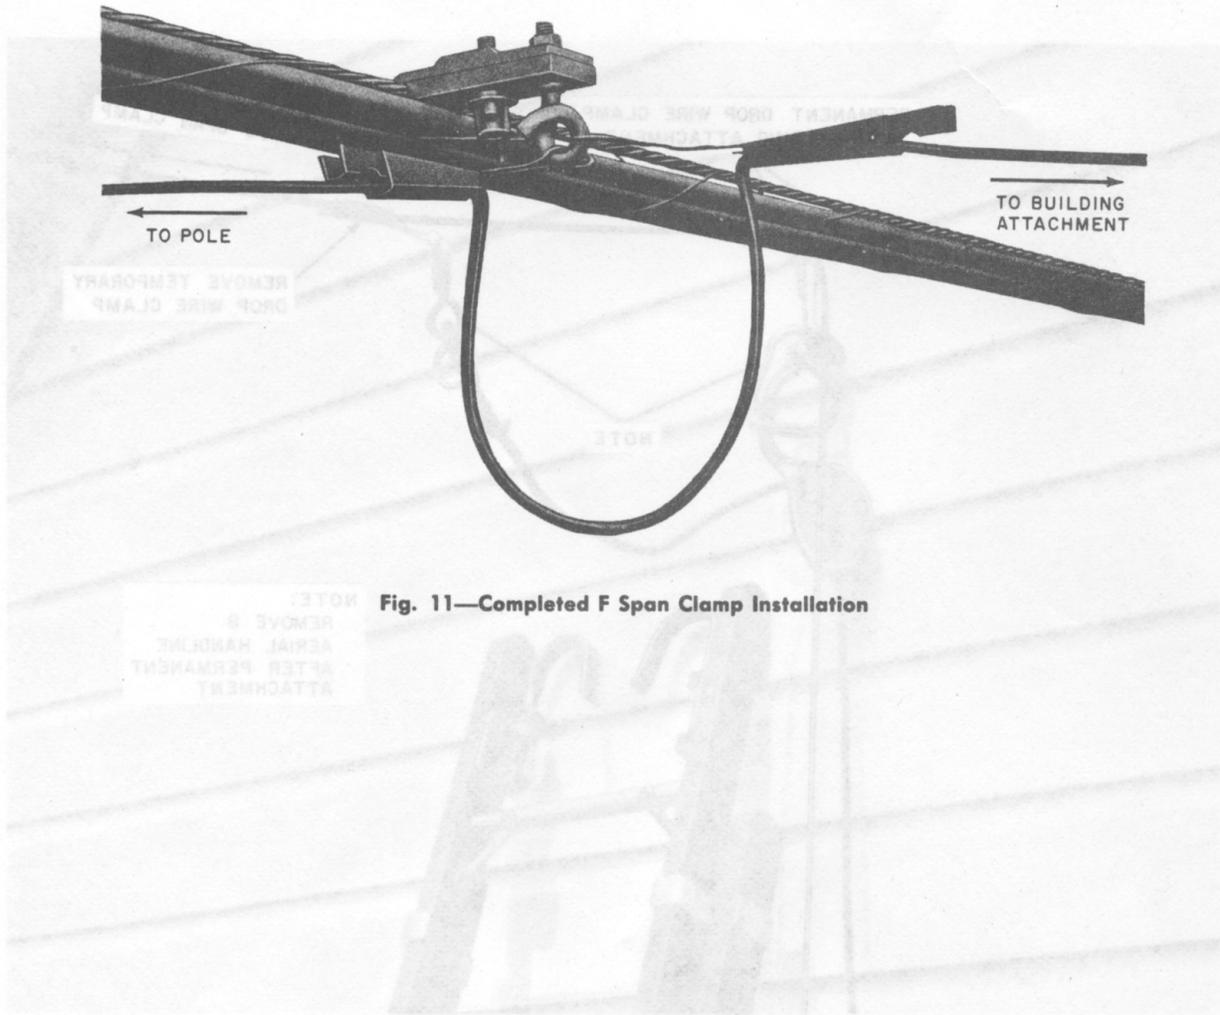

Fig. 10—Completing Permanent Building Attachment
(10) When the drop wire is raised to its approximate final stringing sag (462-400-200), move the rope of the B Aerial Handline in a lateral motion to activate the automatic locking device on the handline to hold the drop wire in the raised position. The craftsman may then ascend the ladder to make the permanent building attachment. Install the permanent drop wire clamp on the drop wire and the building attachment as shown in Fig. 10.
(11) Remove the B Aerial Handline from the building attachment and remove the temporarily installed drop wire clamp from the tensioned drop wire to complete the building attachment.
(12) Complete all other pole and building attachments and terminate the drop wire as described in other practices of the 462 Division.